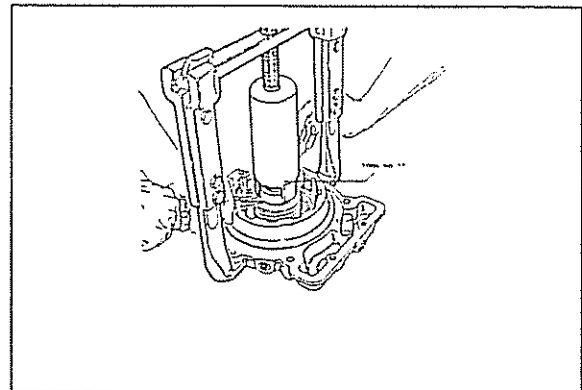

Figure B6
2.6 . Using tool No. RTK0073 in position #1 compress the reverse clutch spring retaining washer (T3-2 #26A) as follows. Figure B6. **IMPORTANT! Compress this spring only far enough to allow the snap ring to be removed. Excessive pressure on this washer could damage the washer or adapter housing.**